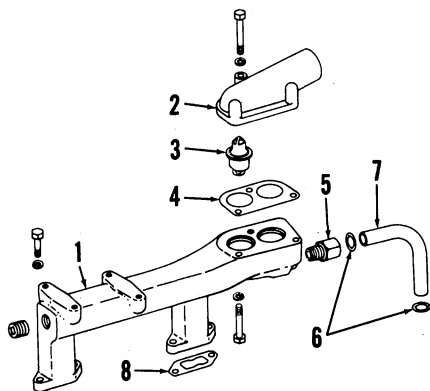

Fig. 64—Exploded view of water manifold with thermostats.
56. The thermostats are contained in the front of the water manifold (1—Fig. 64). All models use dou-